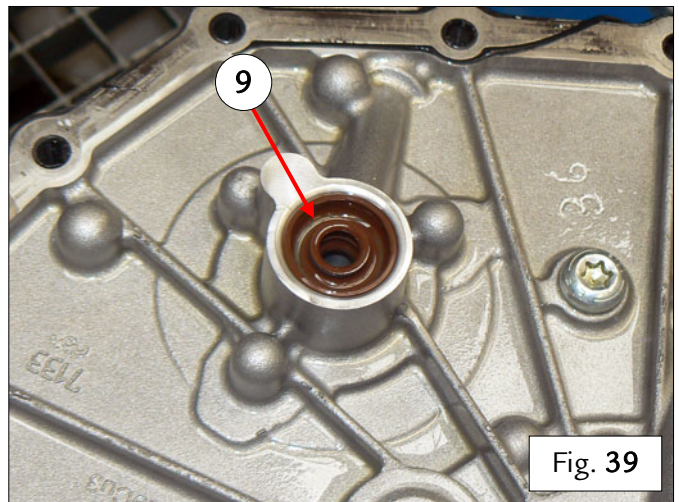

Fig. 39
- Insert the two assembled oil pump spindle seals (9) in the relative seat on the interface plate – Fig. 39.